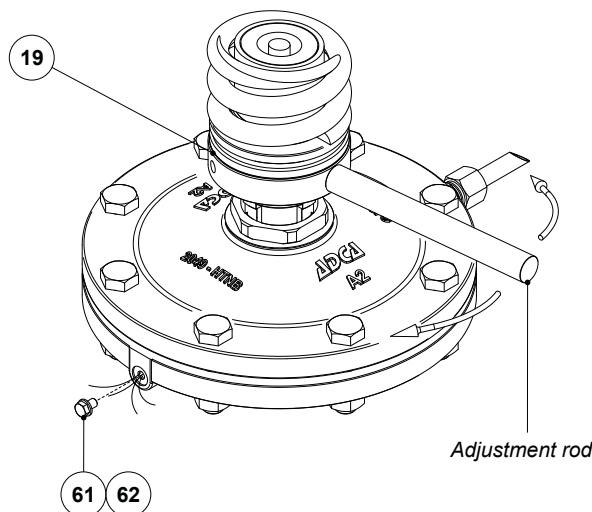

Fig. 2 - Changing the compression of the adjustment spring
2. Set the downstream pressure by turning the spring adjusting nut (19) with the help of the adjustment rod, monitoring with the aid of the downstream pressure gauge.
- a. Turn the adjustment rod clockwise to increase spring compression and increase downstream pressure – see Figure 2.
- b. Turn the adjustment rod counterclockwise to decrease spring compression and reduce downstream pressure – see Figure 2.
1. Drain the actuator and through the actuator vent screw (61).
3. Relax the adjustment spring (16) by turning the spring adjusting nut (19) counterclockwise using the adjustment rod – see Figure 2.
- a. Unscrew the lock nut (24) away from the actuator housing and until reaching the end stop.
- d. Fix the actuator onto the valve bonnet by screwing it (clockwise). As the actuator housing touches the lock nut, unscrew the actuator by no more than a full turn until the compression fitting (60) is square with the valve outlet connection.
- e. Screw the lock nut (24) tightly against the actuator housing, tightening with the recommended torque – see section 9.6 – Tightening torques.
1. Relax the adjustment spring (16) by turning the spring adjusting nut (19) counterclockwise using the adjustment rod – see Figure 2.
3. Unscrew nuts and bolts (63, 64) and separate the lower (51) and upper (52) diaphragm chambers.
5. Untighten the nut (57), remove the washer (56) and replace the diaphragm (55).
6. Refit the washer (56) and tighten the nut (57) with the recommended torque – see section 9.6 – Tightening torques.
- a. Unscrew the spring adjusting nut completely and remove it as well as the ball bearing (20) and lower spring plate (17), if fitted.
- b. Replace the adjustment spring (16), fit lower spring plate, ball bearing and spring adjusting nut back into place.
- c. Apply a suitable thread lubricant onto the threaded tube (18).
- d. Raise the threaded tube (18) with the help of a flat head screwdriver until it touches the spring adjustment nut, center the threads and screw the adjustment nut.